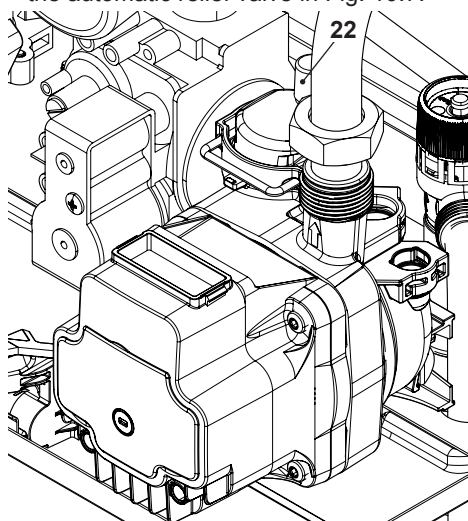

Fig. 10.7
- To make draining easier, lift the plug 22 of the automatic relief valve in Fig. 10.7.